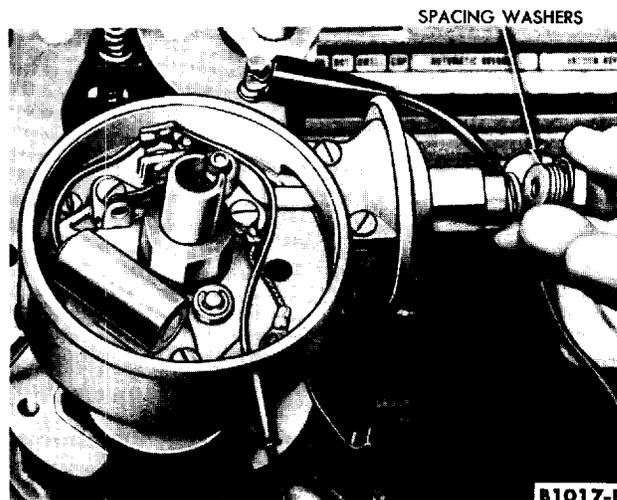

FIG. 10—Vacuum Advance Adjustment
4. If the advance is incorrect, change the calibration washers between the vacuum chamber spring and nut (Fig. 10). After installing or removing the washers, position the gasket in place and tighten the nut. **The addition of a washer will decrease advance and the removal of a washer will increase advance.**